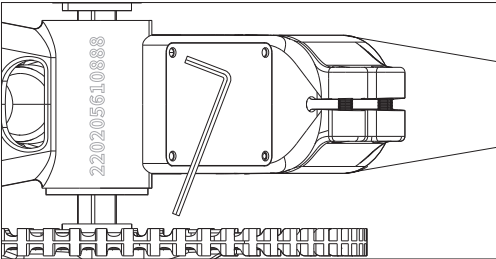

Figure 7-1
- Loosen the four screws on the cover next to the bottom bracket in a counterclockwise direction with a 3 mm Allen key, then remove the screws and the cover, as shown in **Figure 7-1**.